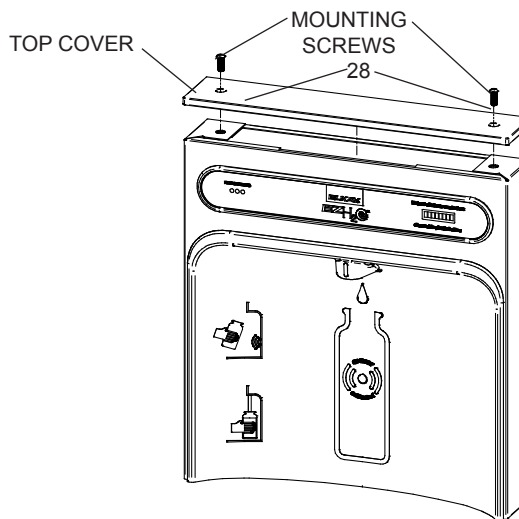

Fig. 5
- 1) **Remove two (2) mounting screws** with 5/32" Allen wrench holding top cover to Bottle Filler (See Fig. 5). Remove top cover. Note do not discard mounting screws, they will be needed to reinstall top cover.
- 11) **Once Bottle Filler is installed** on wall plate tabs, water line, wire(s) and power cord are installed properly, push top of Bottle Filler toward wall and line up top cover two (2) holes.
- 12) **Reinstall Top Cover** on Bottle Filler (See Fig. 5) with two mounting screws from step 1 above. Caution, do not over tighten screws.